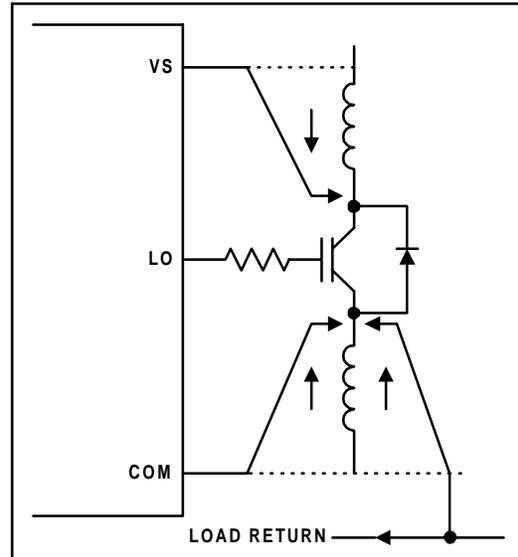

Figure 6. Bypass Parasitics
- 2a. Connect V_s and COM as shown in figure 6.